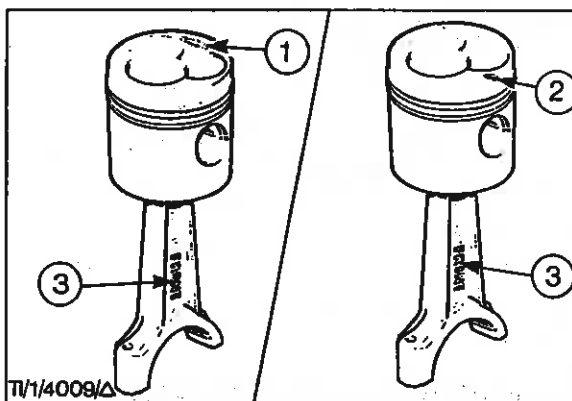

Fig. 59 - Piston and Connecting Rod 'Fitting' Marks (Towards Front of Engine)
46. Assemble each piston to its respective connecting rod. Heat the piston in hot water, locate the small end of the connecting rod into the piston ensuring that the arrow or notch on the piston crown and 'F' or 'Front' mark on the connecting rod are facing the same way (Fig. 59) and insert the piston pin into the piston and through the connecting rod. Fit the two retaining circlips.